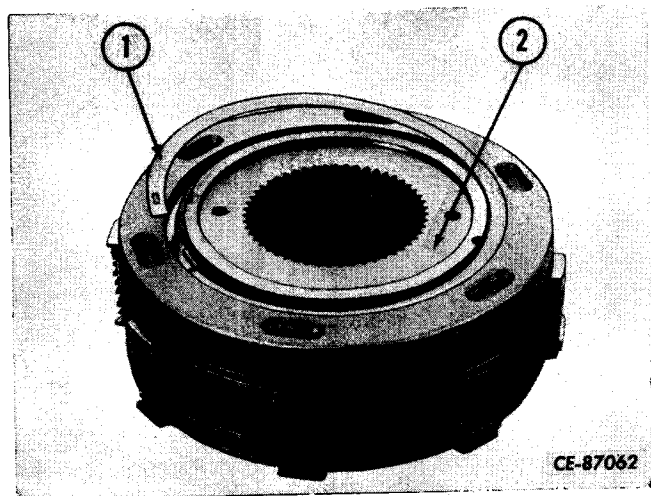

Figure 4-24
Remove Spir-O-Lox retaining ring (1, Fig. 4-24) from the hub and plate assembly (2).